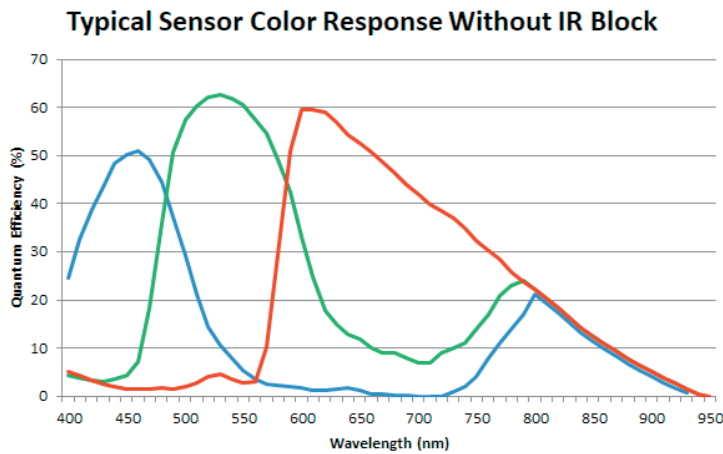
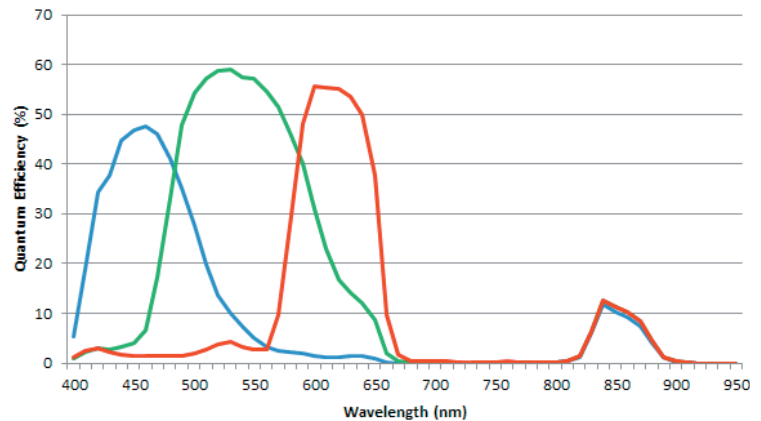
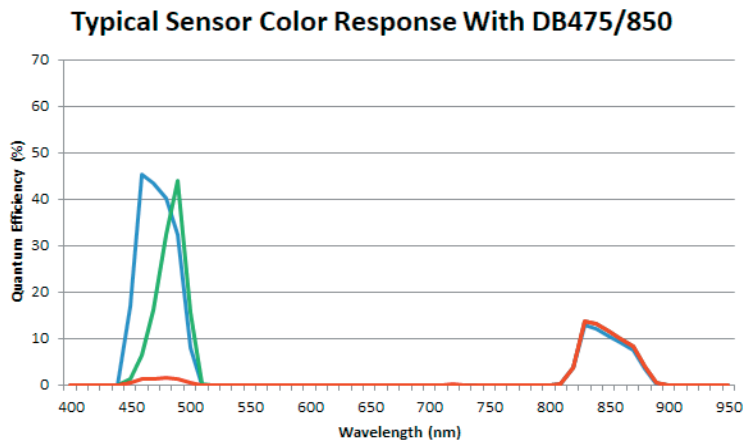

Figure 6 - Typical Color Sensor Response Without IR Blocking Filter
Figure 7 - Color Sensor Response When Using Visible + 850nm Dual Bandpass Filter
Figure 10 - Color Sensor Response with 475nm + 850nm Dual Bandpass Filter
To use a dual bandpass filter on a color camera it helps to understand the effects of the camera's color filter array (CFA). The graphic in Figure 6 illustrates the typical response of a color camera without the color-balancing effect of infrared (IR) blocking filter. Adding a dual bandpass filter with the IR filter allows the camera to target specific spectral bands through the three (red, green, blue) color channels. The graph in Figure 7 illustrates the response of a visible + near-infrared (NIR) dual bandpass filter, where Figure 10 shows a much narrower response from a 475 nm + 850 nm (blue + NIR) filter. The following sections will elaborate on these two filters and give examples that highlight their benefits.